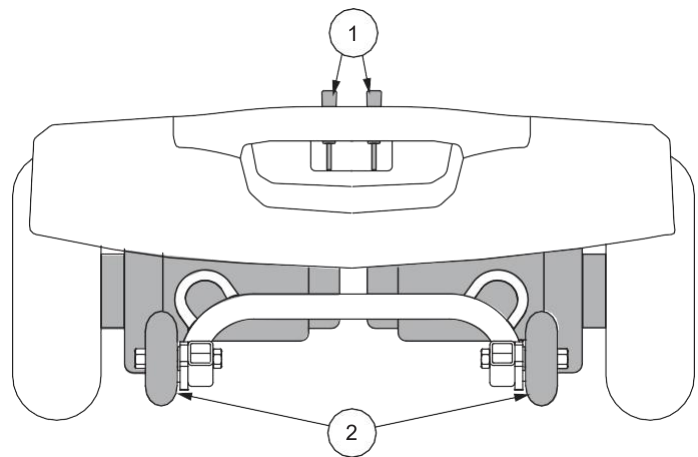

Figure 8. Rear Components
For your convenience, your travel scooter has a manual freewheel lever on the motor. Manual freewheel levers enable you to disable the drive system in order to maneuver the Travel Scooter manually. See figure 8.
1. Locate the levers on the rear section of the scooter. See figure 8.